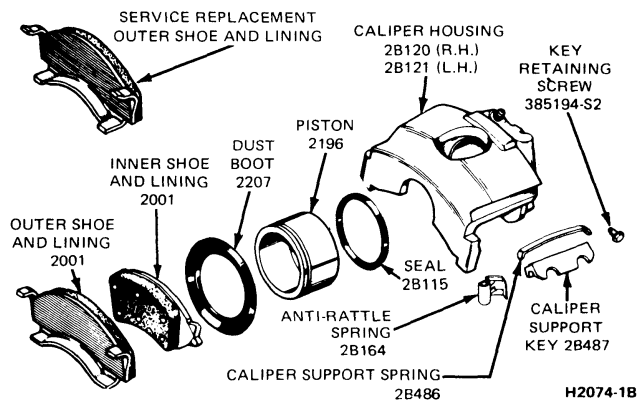

FIG. 29 Disc Brake Caliper—Disassembled—LD Sliding Caliper
6. Remove the boot from the piston and the seal from the caliper cylinder bore (Fig. 29).